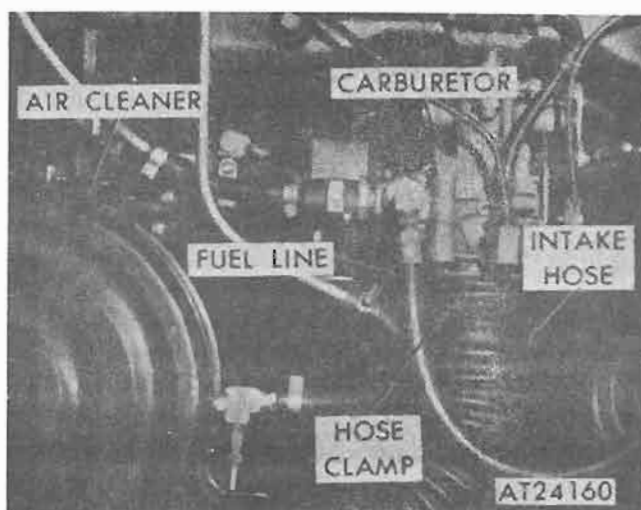

Figure 4-43. Disconnecting or connecting carburetor intake hose and fuel line.
(20) Disconnect fuel line and intake hose at carburetor (fig. 4-43).